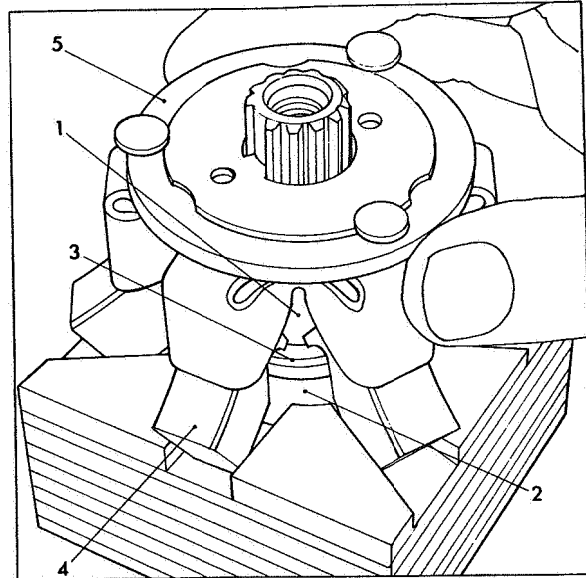

Fig 82 Inserting drive shaft & weight assembly
Place drive shaft (1) Fig 82 into fixture 7144-894, seal groove uppermost. Assemble thrust sleeve (2) stepped end downwards, then thrust washer (3). Offer up a governor weight (4) and adjust the height of the fixture until the lip of the governor weight sits on the thrust washer. Place remaining governor weights in a similar position around the drive shaft. Align drive shaft with cush drive hub splines and slide cush drive retainer assembly (5) onto weights. Using Protection Cap Part No 7144-900 assemble drive shaft seal. Take off protection cap and remove complete assembly from the fixture.